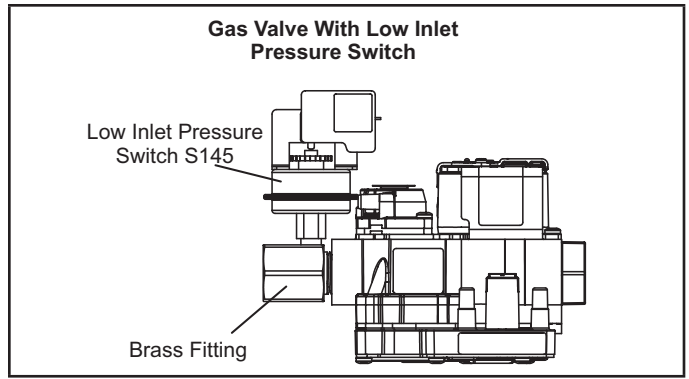

FIGURE 3
- 11 - Thread provided fitting to gas valve inlet until hand tight. Using properly sized wrench, tighten fitting 2 to 3 full turns being careful to position the side port to allow clearance for the pressure switch and harness. See "FIGURE 3" or 4.
NOTE - Some installations may require the S145 pressure switch and fitting assembly to be positioned differently than shown in "FIGURE 3" or 4.